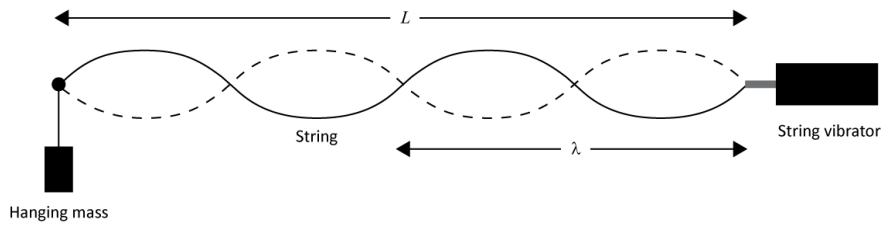
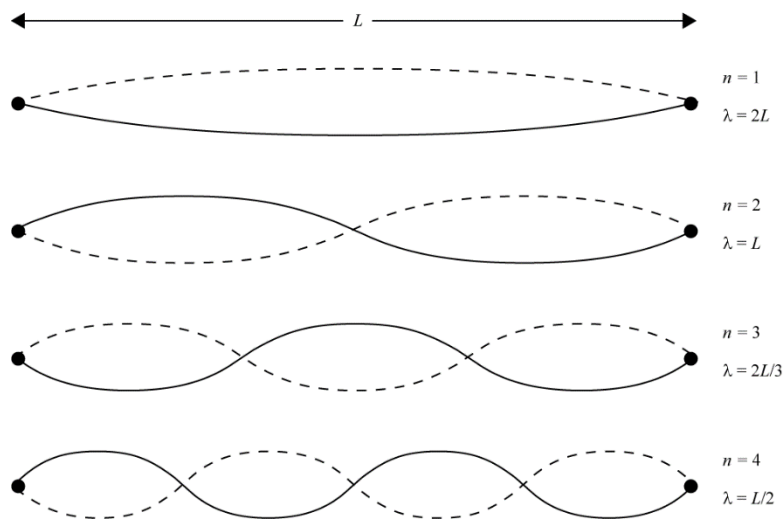

Figure 1 – String vibrator setup.
Figure 2 – The first four fundamental modes of the vibrating string.
A stretched string has many natural modes of vibration (one example is shown in Figure 1). If the string is fixed at both ends then there must be a node at each end. It may vibrate as a single segment (see $n = 1$ in Figure 2), in which case the length (L) of the string is equal to $1/2$ the wavelength (λ) of the wave. It may also vibrate in two segments with a node at each end and one node in the middle; then the wavelength is equal to the length of the string. It may also vibrate with a larger integer number of segments. In every case, the length of the string equals some integer number of half wavelengths.
In this experiment, standing waves are set up in a stretched string by the vibrations of an electrically-driven string vibrator. The arrangement of the apparatus is shown in Figure 1. The tension in the string equals the weight of the suspended masses ($F = mg$). You can alter the tension by changing the mass. You can adjust the amplitude and frequency of the wave by adjusting the output of the Function Generator, which powers the string vibrator.
We refer to the fundamental mode using the number n . Figure 2 shows examples of the first four modes.